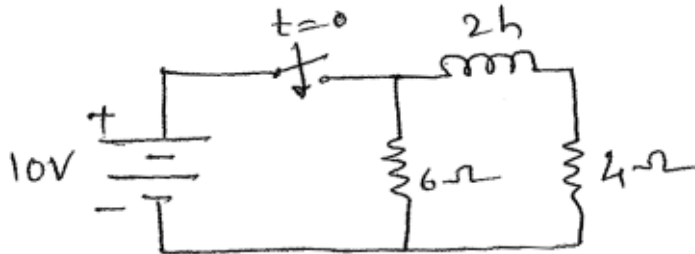

Fig.4b
b) Find $i_c(t)$ for $t > 0$ (Ref. fig. 4b).